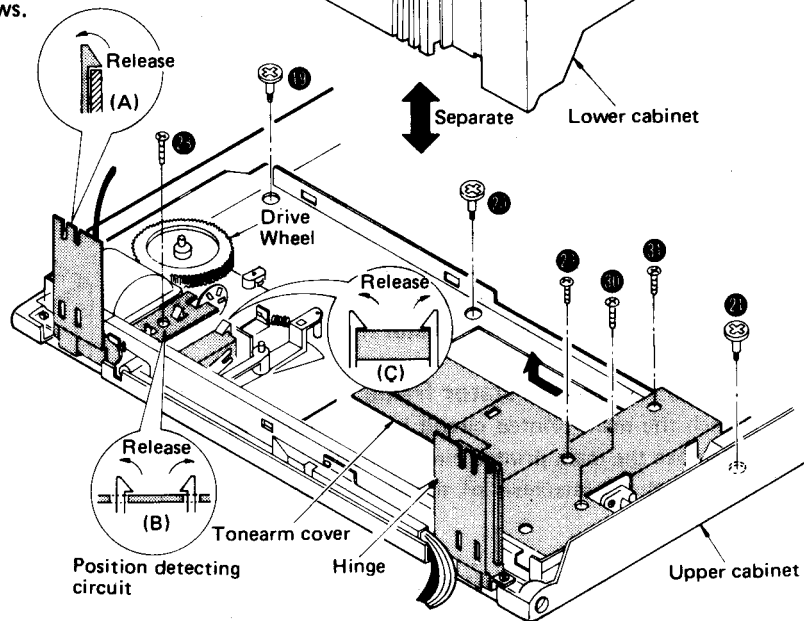

Fig. 7
4. Remove the 5 setscrews of the dust cover. (Fig. 6 : ⑰, ⑱ and Fig. 7 : ⑲ ~ ㉑)
2. Detach the output terminal from lower cabinet. (Fig. 7)
3. Pull out connectors 22 and 23. (Fig. 7)
4. Remove the 4 setscrews of the hinge. (Fig. 7 : 24 ~ 27)
5. The hinge is engaged with the lower cabinet. The lower cabinet can be separated from the upper cabinet by lifting the cabinet while releasing the hinge claws. (See Fig. 7 (A))
2. Remove the setscrews 28. (Fig. 7)
3. Release the claws with the nail and remove the position detecting circuit and the rest switch. (Fig. 7 : (B), (C))
2. Remove the 3 setscrews of the tonearm cover (Fig. 7 : 29 ~ 31) and detach the cover in the direction of the arrow.